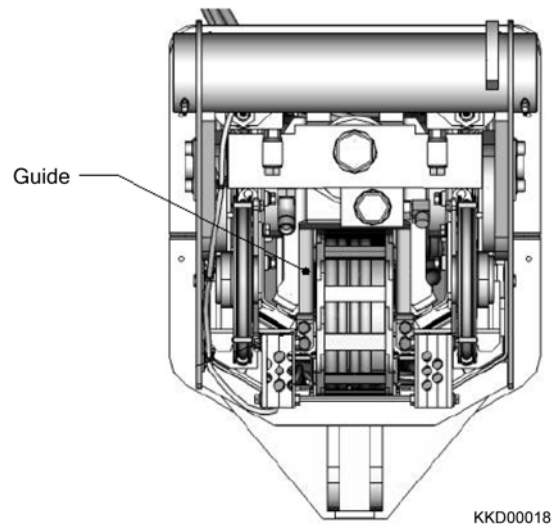

Fig. 2-47
- 22) Take the guide fixed to the tail end of 3rd boom section off. (Fig. 2-47)